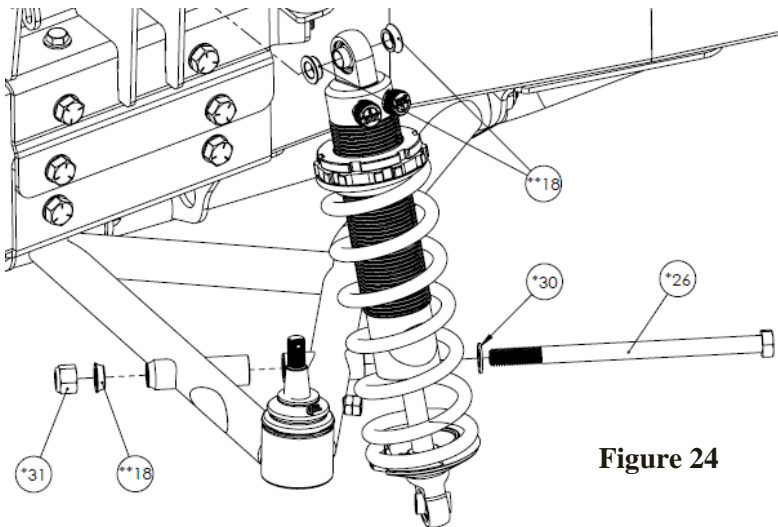

Figure 24
19. Install the coil-overs with the adjustment knob(s) towards the top, facing outward. **(Figure 24)**